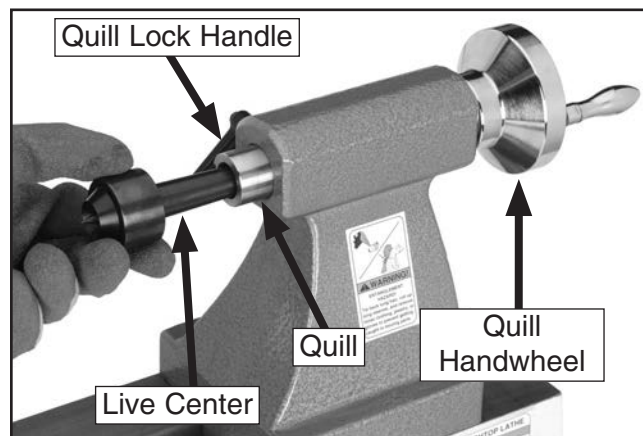

Figure 26. Live center installed in tailstock.
3. Insert the live center, as shown in **Figure 26**, and push firmly.